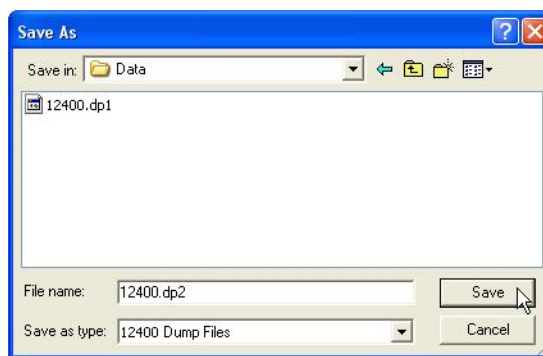

Figure 109 Store 12400 File
3. Specify the file name and click **Save** to store the parameters as a file (Figure 109).